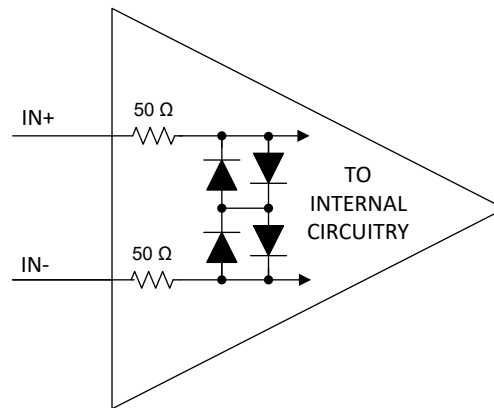

図 7-1. Input Stage Circuitry
The TLV380x/TLV3811(C) feature an input stage, capable of operating between 1.5 V above VEE (GND for TLV3811(C)) and 0.1 V above VCC, with an internal ESD protection circuit that includes two pairs of front-to-back diodes between IN+ and IN- as well as two 50 Ω resistors, as shown in Figure 7-1. This prevents damage to the input stage by limiting the differential input voltage to be no more than twice the diode's forward-voltage drop $2 \times V_F$ (2×0.7 V).